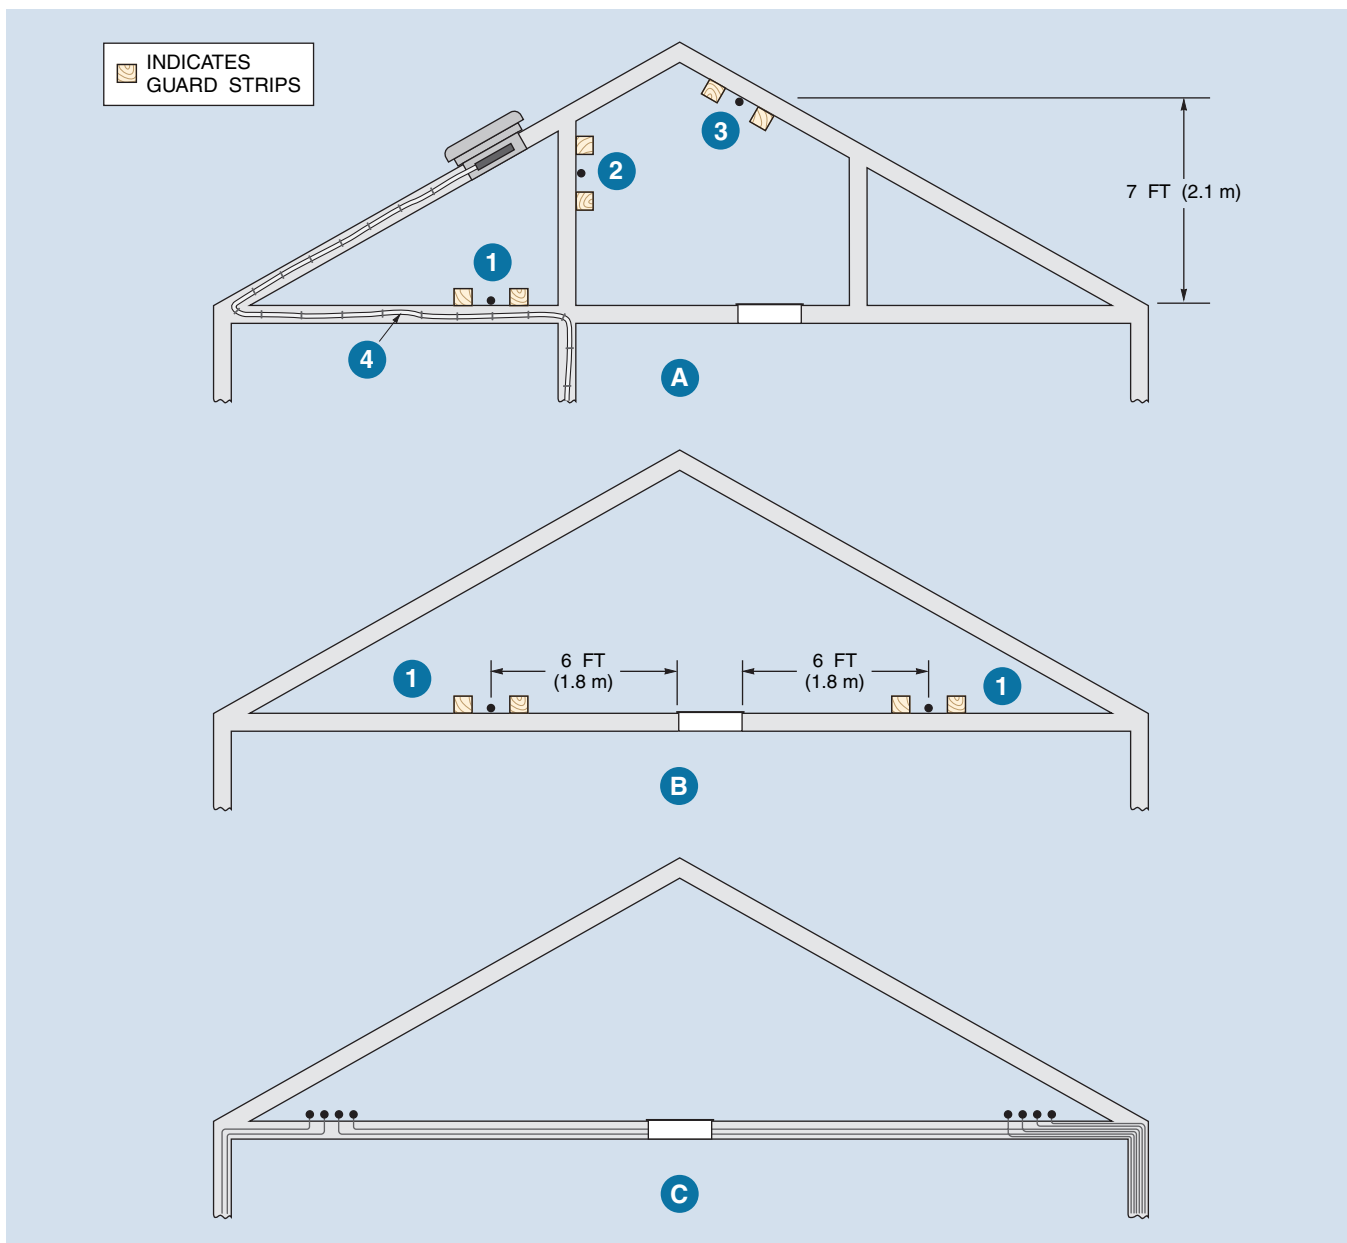
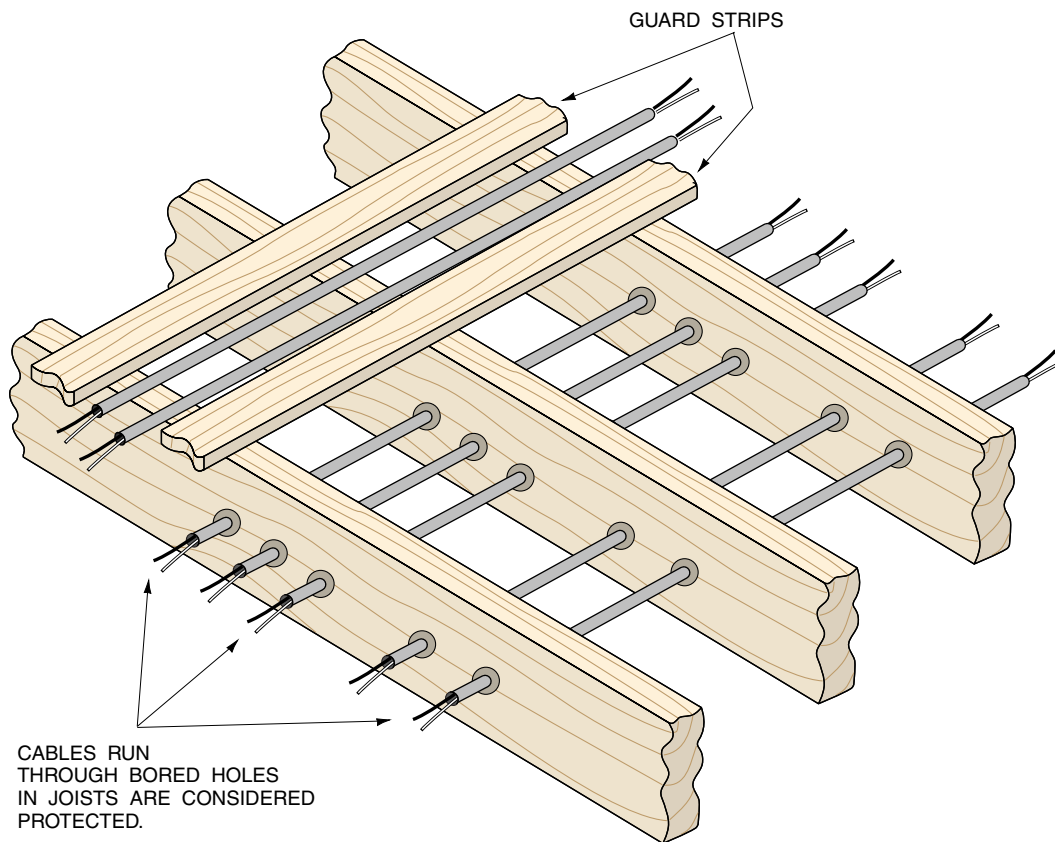

Figure 15-13 Protection of nonmetallic-sheathed cable or armored cable in an attic. Refer to 334.23 and 320.23.
Figure 15-14 Methods of protecting cable installations in accessible attics. See 320.23 and 334.23.
When nonmetallic-sheathed cable is installed in accessible attics, the installation must conform to the requirements of 334.23. This section refers the reader directly to 320.23, which describes how the cable is to be protected. See Figure 15-13 and Figure 15-14.
In attics not accessible by permanent stairs or ladders, as in Figure 15-13(B), guard strips are required only within 6 ft (1.8 m) of the nearest edge of the scuttle hole or entrance.
Figure 15-13(C) illustrates a cable installation that most electrical inspectors consider to be safe. Because the cables are installed close to the point where the ceiling joists and the roof rafters meet, they are protected from physical damage. It would be very difficult for a person to crawl into this space or store cartons in an area with such a low clearance. Although the plans for this residence show a 2-ft-wide catwalk in the attic, the owner may decide to install additional flooring in the attic to obtain more storage space. Because of the large number of cables
required to complete the circuits, it would interfere with flooring to install guard strips wherever the cables run across the tops of the joists, as in Figure 15-14. However, the cables can be run through holes bored in the joists and along the sides of the joists and rafters. In this way, the cables do not interfere with the flooring.